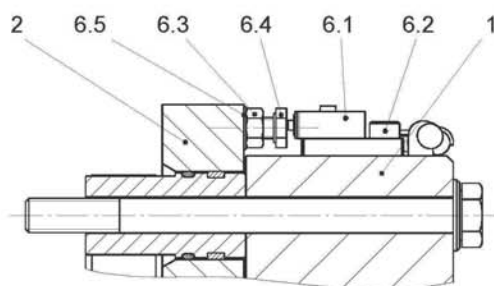

Fig. 9
### Release Monitoring (6) Fig. 9 (Option, dependent on Type)
### Manufacturer-side Adjustment and Functional Inspection of the Microswitch (6.1), see Fig. 9